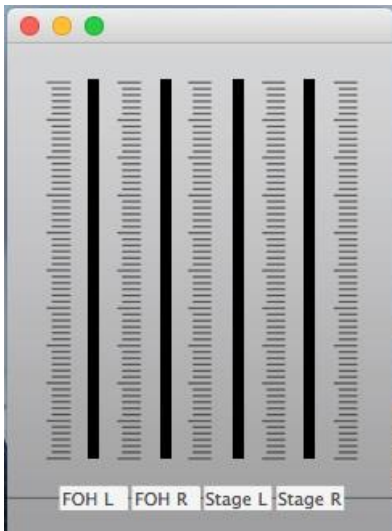

Figure 8: detail of unit panel in locked state.
**Hardware\Lock Unit** *Clicking this menu item will lock the unit. When locked, the unit window shows input levels but no controls or other settings, and nothing can be changed, as shown in Figure 8: detail of unit panel in locked state.*